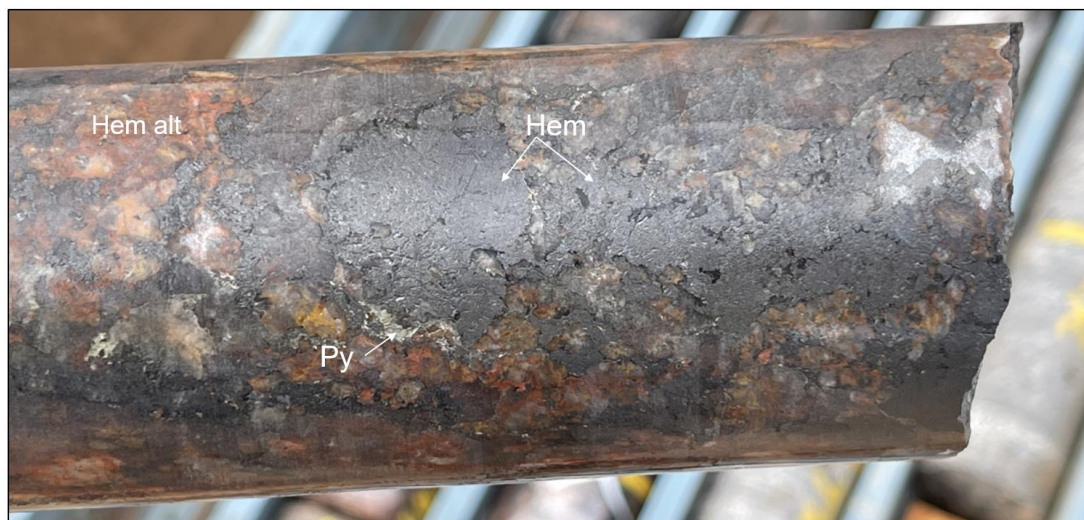

Figure 11. Section of diamond NQ drill core showing massive hematite infilling felsic intrusive brecciated matrix. Photo is of NQ ½ core (Ø = 47.6 mm).
- 1) Felsic breccias are present throughout the drill core containing hematite alteration and both magnetite and hematite are present within the groundmass (Figure 1, Figure 2, Figure 6, Figure 7, Figure 8, Figure 9, Figure 10, Figure 11). The felsic breccias cut across the altered diorite, and quartz-diorite host rocks.
- 3) Increasing hematite alteration is present as red-staining of 1) breccia fragments (Figure 6) and 2) host igneous minerals (Figure 9) and/or disseminated clusters or disseminated groundmass in the host igneous rock (Figure 1, Figure 2, Figure 9, Figure 10, Figure 11, Figure 13).